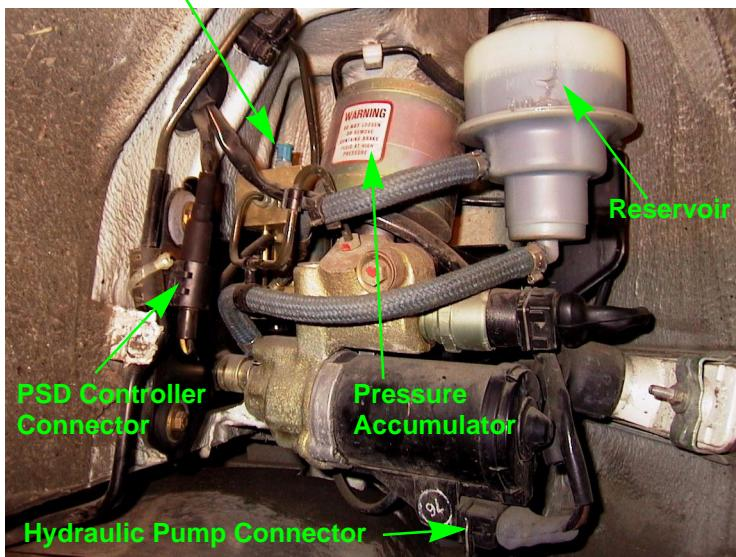

FIGURE 1
14. Locate the bleeder screw on top of the locking solenoid. It may be covered by a dust cap. See "Figure 1" on page 3.